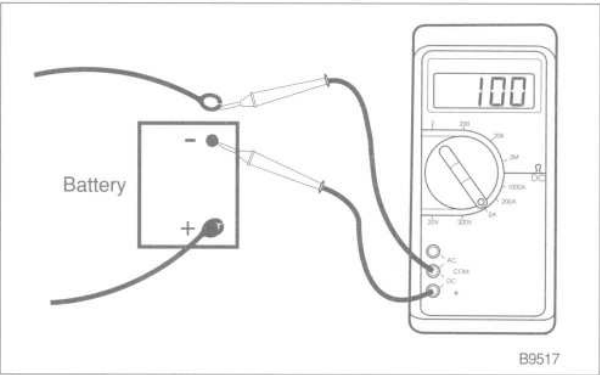

Fig. 1. Electrical system static current draw being measured.
- 3. Connect a digital ammeter between battery negative post and negative battery cable to measure current. See Fig. 1.